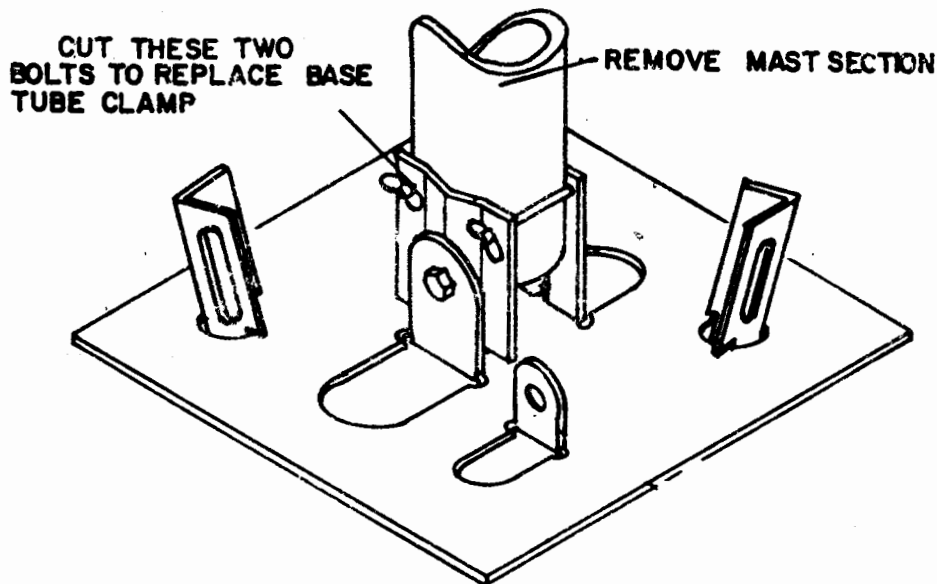

Figure 3-6 Replacing Base Tube Clamp
(1) After the antenna has been lowered, remove lower metal mast section from base tube clamp by removing the two wing nuts. Refer to Figure 3-6.
- (2) Remove the 1/4" lock nut from the lower 1/4" x 3" bolt.
- (3) Pull 3" bolt back thru base tube clamps and tabs on mast base assembly.
- (4) Replace the damaged base tube clamp and reassemble the clamps with the 1/4" hardware making sure the 3" bolt is assembled in the bottom hole.
- (5) Insert the lower mast section and tighten all hardware securely.